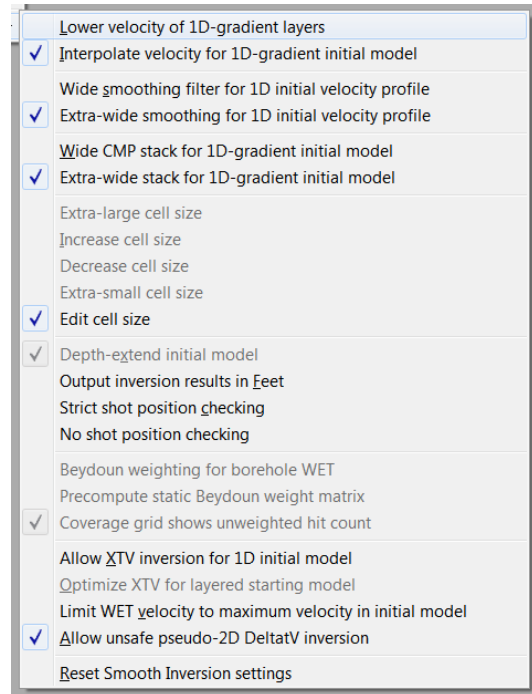

Fig. 10 : Smooth invert | Smooth inversion Settings
- check **Smooth invert|Smooth inversion Settings options Extra-wide smoothing for 1D initial velocity profile** and **Extra-wide stack for 1D-gradient initial** (Fig. 10).